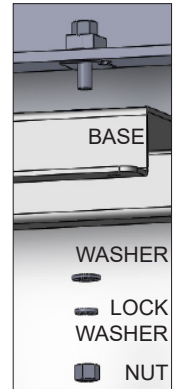

FIG. 2B
5. Install the Washers, Lock Washers and Nuts (#2, 3, 4) onto the two threaded screws to join the frame and base together. Tilt the base up to do this. Hand tighten the two screws. FIG. 2B.